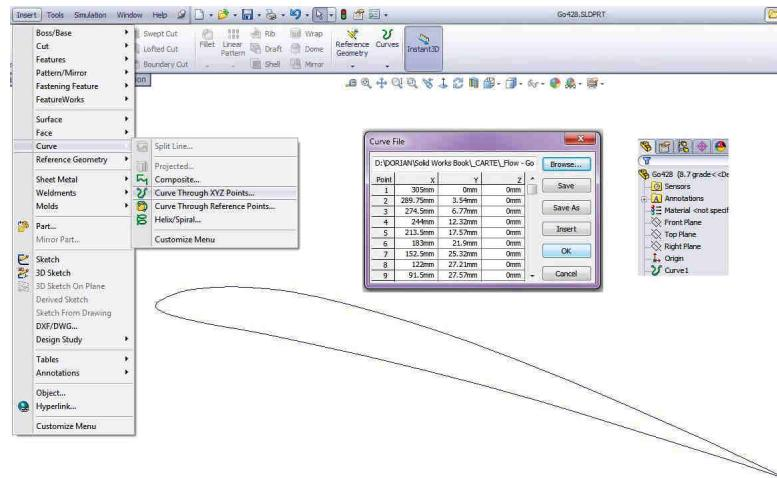

Fig. 16.3
- Click **Insert → Curve → Curve through XYZ Points**; se va deschide fereastra **Curve File**, fig. 16.3.
- Click **Insert → Curve → Curve through XYZ Points**; the **Curve File** window will be open, fig. 16.3.